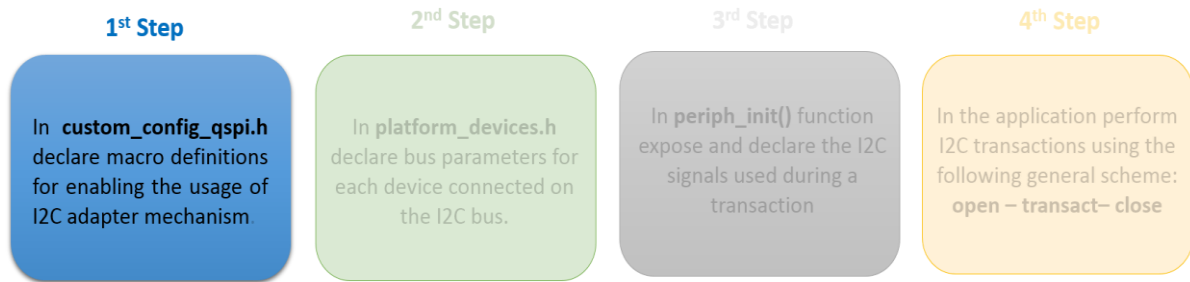

Figure 4: First Step for Configuring the I2C Adapter Mechanism
- As illustrated in Figure 4, the first step for configuring the I2C adapter mechanism is to enable it by defining the following macros in /config/custom_config_qsapi.h: